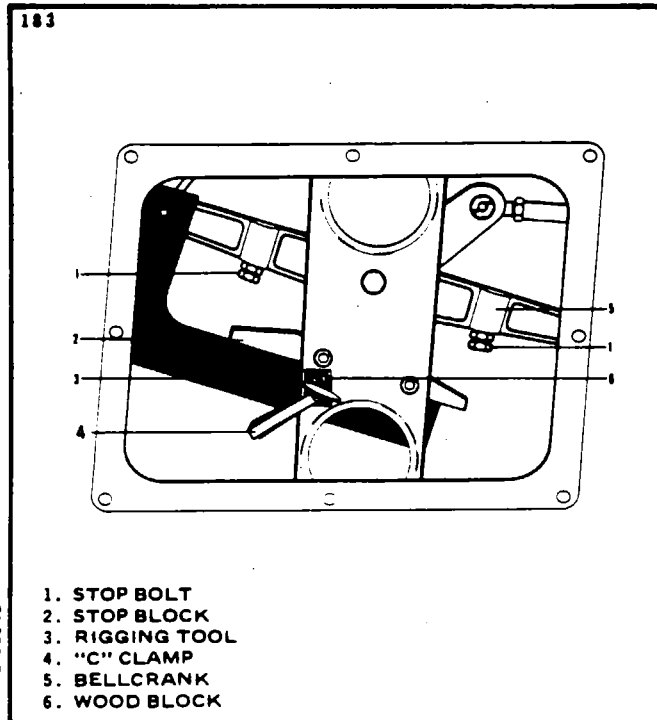

Figure 5-4. Installation of Bellcrank Rigging Tool
- a. To rig the aileron controls, set the right and left aileron bellcranks in neutral position by attaching an aligning tool within both wings as shown in Figure 5-4. (This tool may be fabricated from dimensions given in Figure 5-31.) The tool is used by the following procedure:
2. Remove the cotter pin and nut that secures the forward turnbuckle fork end (55) to the bellcrank (1 and 24). The bolt should not be removed.